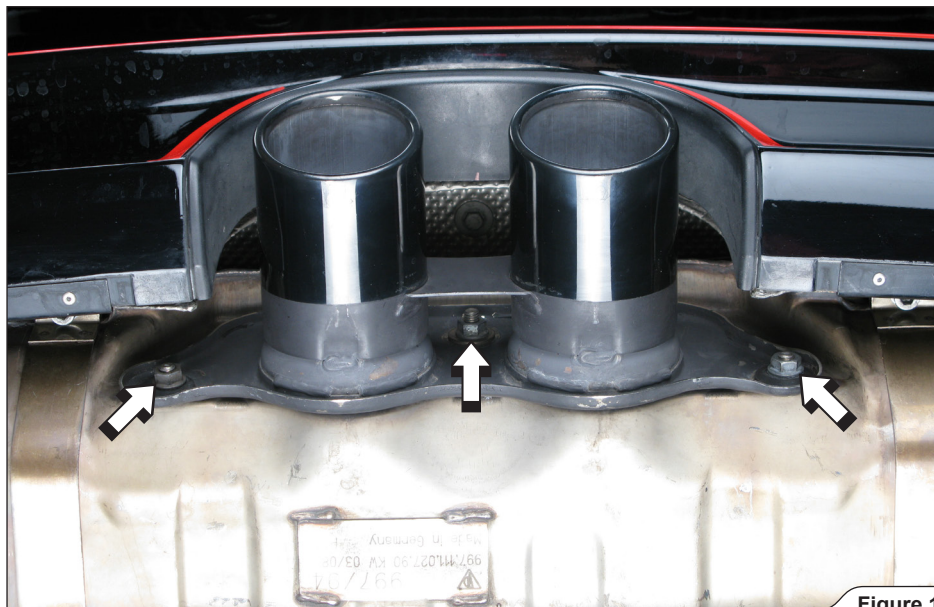

Figure 1
1. **For Tail Pipe, Slip-On, Sports Cup, Evolution and Evolution-Race:** unscrew three M8 nuts from stock tail pipe piece and remove the tail pipe (**Figure 1**).